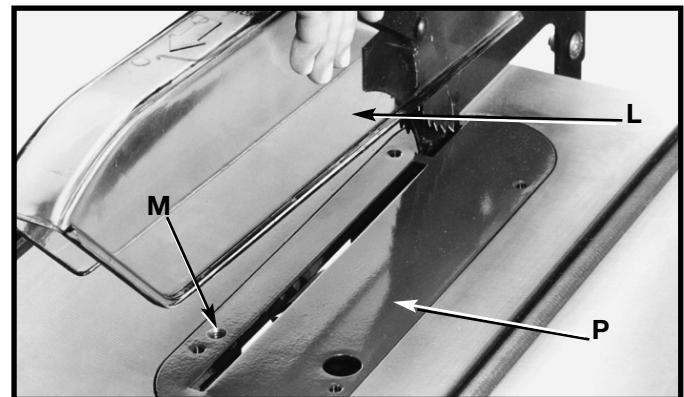
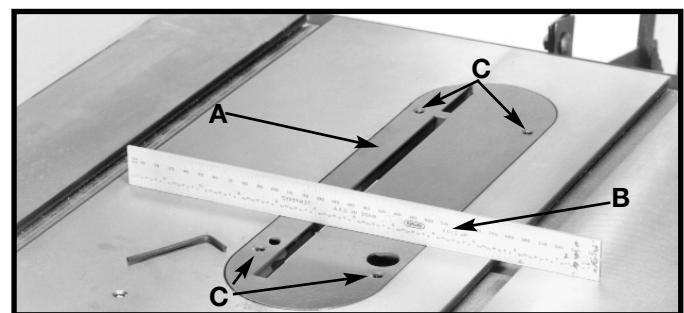

Fig. 26
Fig. 26A
Lower saw blade and install table insert (P) Fig. 26, in the saw table. **IMPORTANT:** When installing the table insert, make certain to hold on to the blade guard (L). The insert will automatically release the holding action on the splitter and lower the blade guard when the insert is installed in the table opening.
Insert M5x20mm screw into hole (M) Fig. 26 and tighten.
Place a straight edge (B) Fig. 26A across the table at both ends of the table insert (A) as shown in Fig. 26A.
**⚠CAUTION** **THE TABLE INSERT (A) SHOULD ALWAYS BE LEVEL WITH THE TABLE.**
If an adjustment is necessary, loosen screw (M) Fig. 26 and turn the adjusting screws (C) Fig. 26A, as needed, with allen wrench supplied.